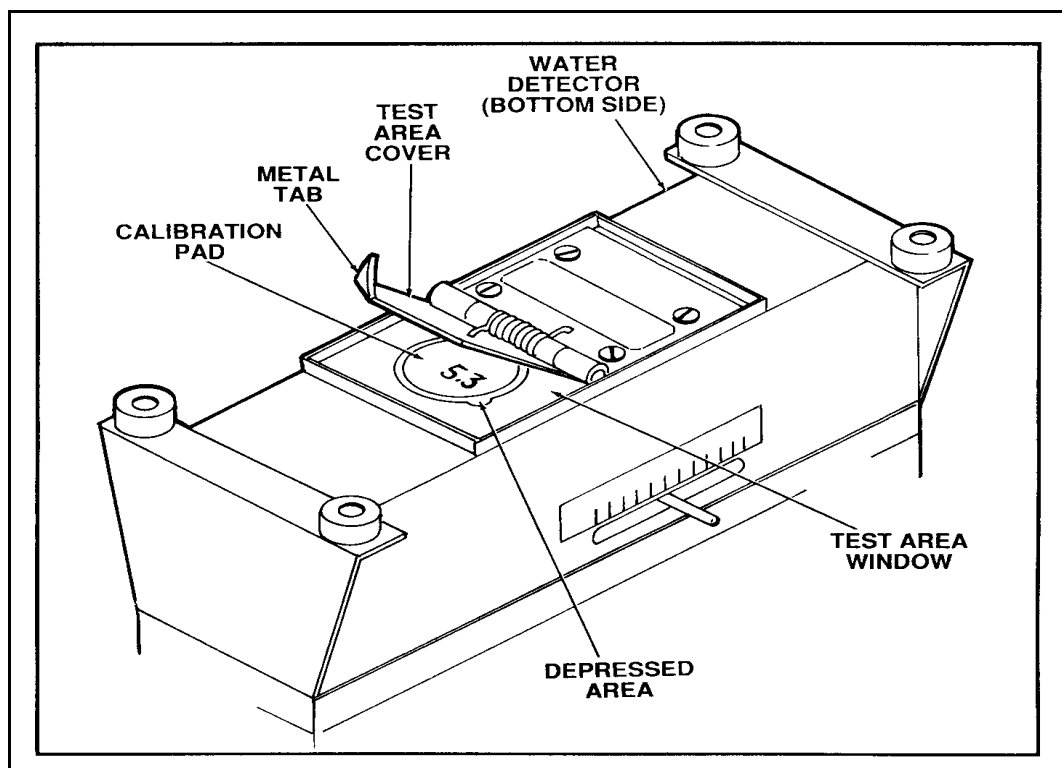

Figure E-4. Placement of calibration pad in test area window
- Using tweezers, insert the calibration pad in the test area window located on the bottom of the water detector. Lift the covers curved metal tab and place the pad (text facing you) in the depressed circular area in the center of the test area as shown in Figure E-4, page E-4. Close the test area cover and stand the water detector upright.